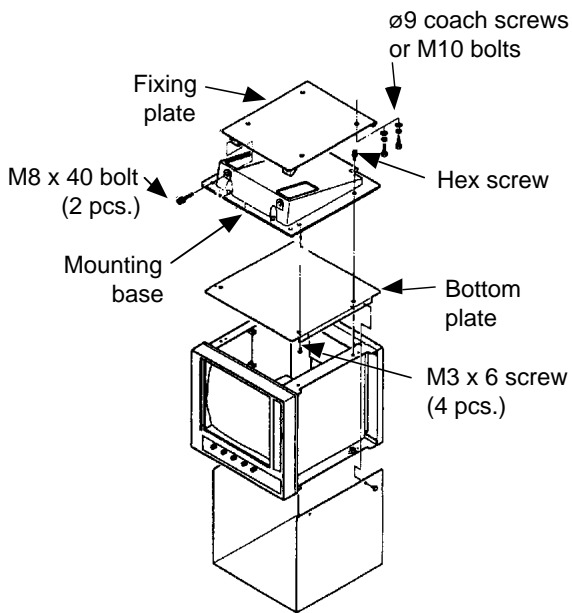

Figure 3-2 Display unit overhead mounting
- 1) Referring to Figure 3-2, change the location of the fixing plate, mounting base, bottom plate and cover to mount the unit on the overhead.